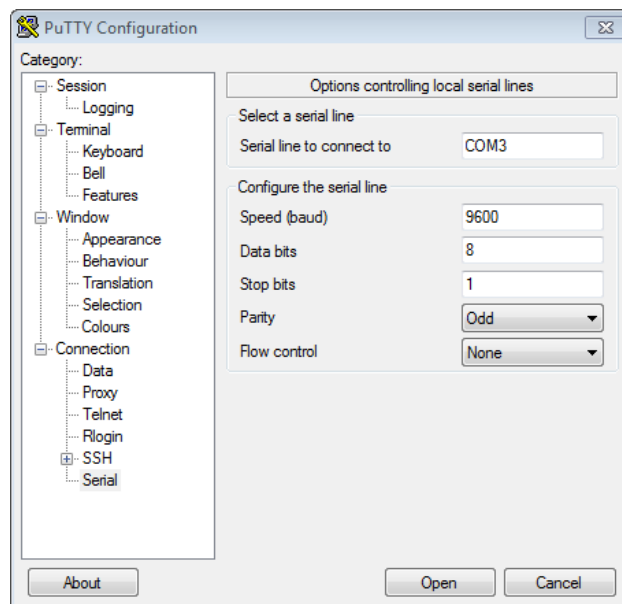

Figure 1: The correct settings to use with Putty
- **Windows users** — Run `putty`. From the **Connection Type** options, select the **Serial** radio button. Enter the COM port of your serial device in the **Serial Line** box. Before you can connect on the serial line you need to make sure it has the correct settings. Make your `putty` settings look like they do in Figure 1. Remember that your COM port may differ. After you have entered the correct settings click **Open**.